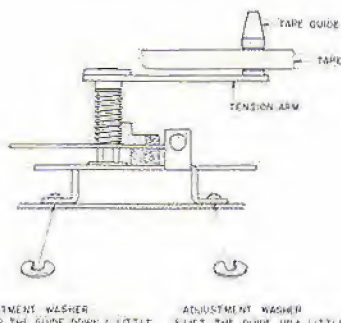

Fig. 8
11. TAPE GUIDE HEIGHT ADJUSTMENT (Refer to Fig. 8)
- 2) In case the tape guide is low, adjust by inserting a U Type Washer on the right side in Fig. 8, and in case it is high, adjust by inserting a washer on the left side.